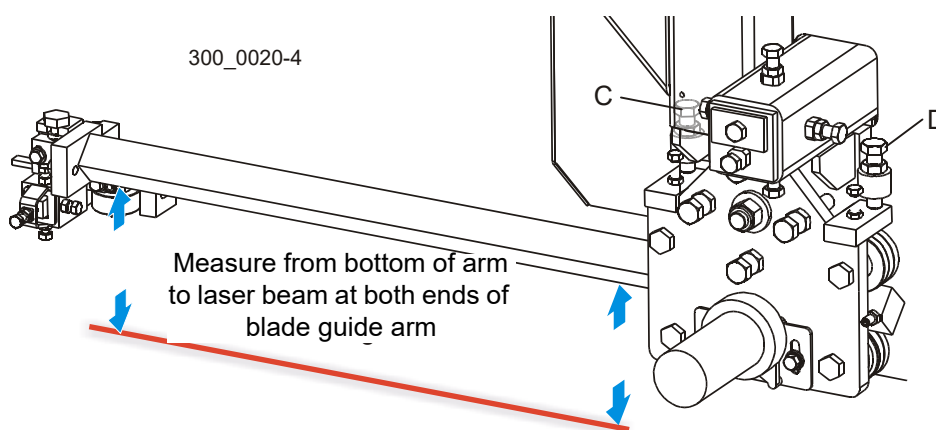

FIG. 3-38
See Figure 3-38. Adjust the blade guide arm all the way in. Measure from the bottom of the arm to the laser beam at both ends of the arm. The two measurements at each end of the arm should be the same within 1/32". To adjust the vertical tilt of the arm, adjust the bolts (C & D) on the blade guide arm mounting plate. Loosen the jam nuts. Adjust bolt (C) up and bolt (D) down to tilt the arm up. Adjust bolt (D) up and bolt (C) in to move the arm toward the blade. Recheck the distance from the arm to the laser beam at both ends of the arm. Readjust if necessary. Tighten the jam nuts.